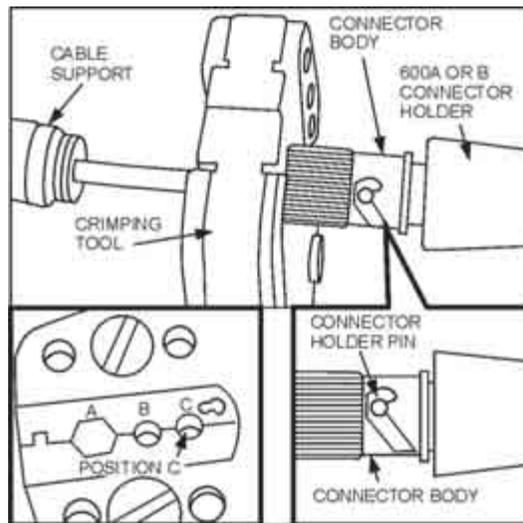

Figure 28. Crimp Cable Sleeve (Single-Fiber Cable)
9. **CRIMP CABLE SLEEVE** Position the 600A or 600B connector holder pins onto the connector body as shown in Detail A (Figure 28) for the crimping operation. This will allow the sleeve to be fully exposed for crimping.
10. Place position C of the 102A Crimping Tool [shown in Detail B (Figure 28)] or the position marked "ST" on the 1510B Crimping Tool over the sleeve so when crimped the first two indentations on the sleeve appear over the connector barrel and the third appears over the cable jacket. This will ensure a good crimp and prevent cable rotation. Squeeze the crimping tool handles until they release. Rotate the connector 90° and crimp again.